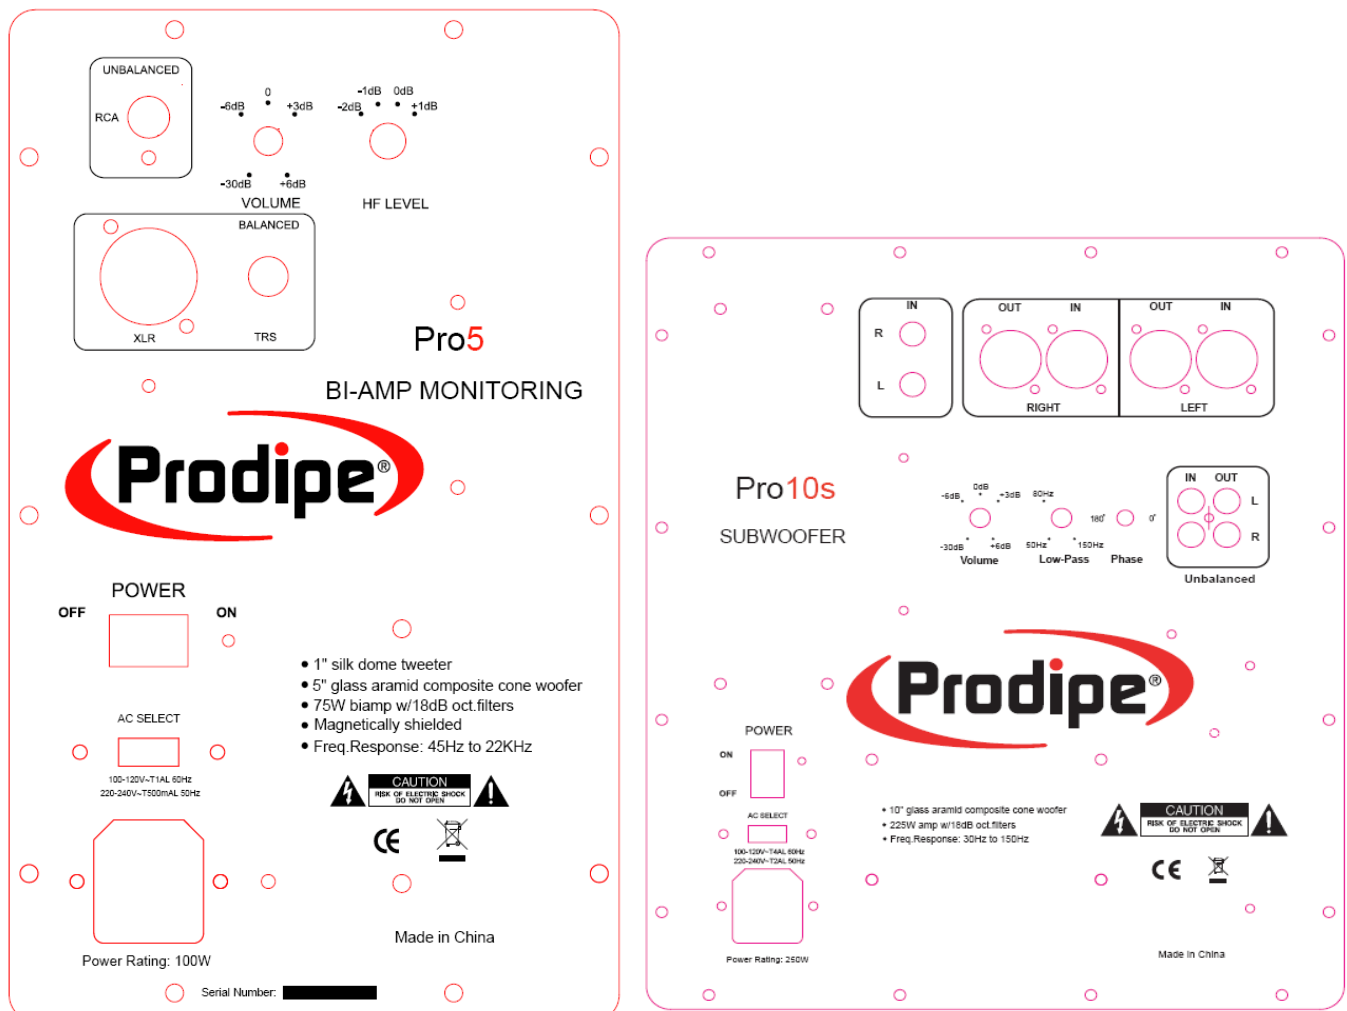

Figure 1 – Rear Panels for the Pro5/Pro8 and the Pro10s
(Figure 1)
- 12) Use only with the cart, stand, tripod, bracket, or table specified by the manufacturer, or sold with the appliance. If using a cart, be careful when moving the cart/appliance combination to avoid injury from tip-over (Figure 1).